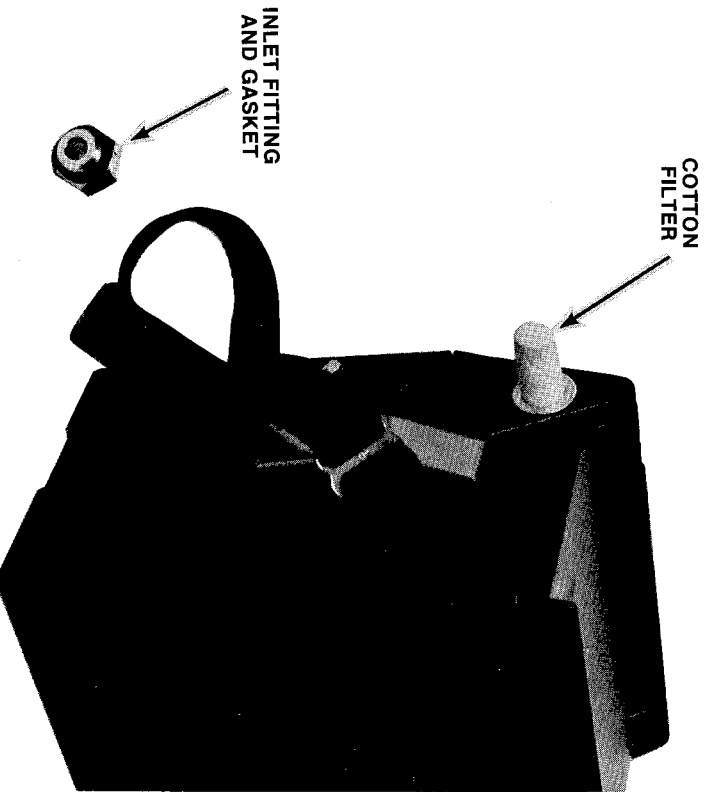

Figure 4-2. Replacement of Cotton Filter
2. If it does not, replace cotton filter by removing inlet fitting and gasket and removing filter, Figure 4-2, using tweezers.
20. Place bottom section of case on instrument so that its thumbscrews, Figure 4-2, are positioned away from inlet and outlet fittings.
8. Place bottom section of case on instrument so that thumb-screws, Figure 4-2, are positioned away from inlet and outlet fittings.